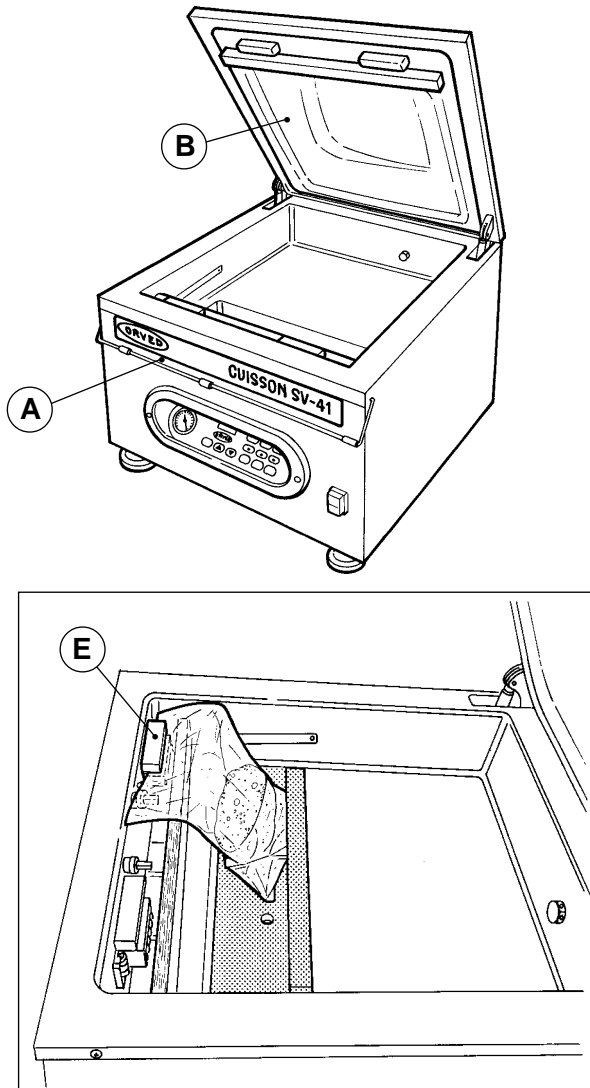

Fig. 1
- 1) Lower the lid securing device (A- Fig.1): the dome's Plexiglas lid (B) opens.
- 2) Position the shelves (C) in the vertical compartment, depending on the volume occupied by the bag; the remaining shelves (D) can be placed in the horizontal compartment of the vacuum chamber.
The vertical compartment can be used for packaging up to 5 litres of liquid product at a time: in this case the bag used must be wide enough to fill the entire width of the compartment. The level of the liquid product must not exceed  $\frac{3}{4}$  of the compartment's height (H). The remaining part of the bag must protrude from the compartment enough to ensure that the opening of the bag itself can be inserted in the dater (E). For smaller bags position the shelves (C) in such a way as to be able to insert the bag opening in the dater (E - Fig. 1).
It is possible to package one bag at a time (Fig. 1) or two bags simultaneously; or a single large-format bag (Fig. 2); in this case it is recommended to remove the dater which is not being used (F).